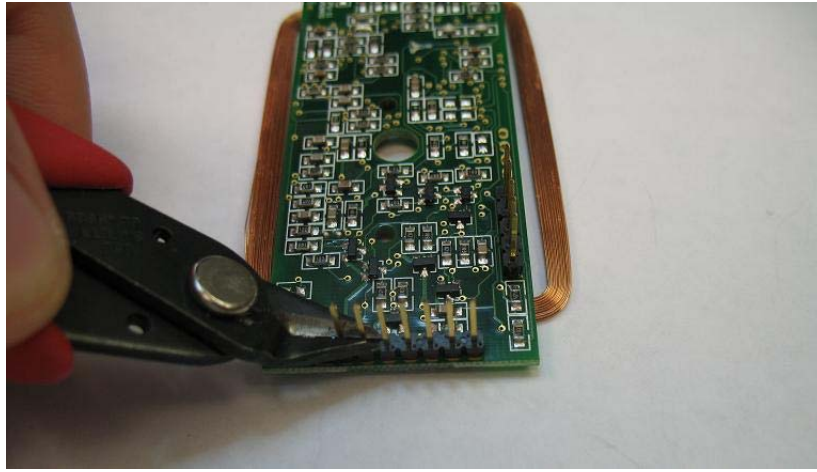

Figure 1.
1. Cut the long pins flush on the two headers on the Indala board per Figure 1.